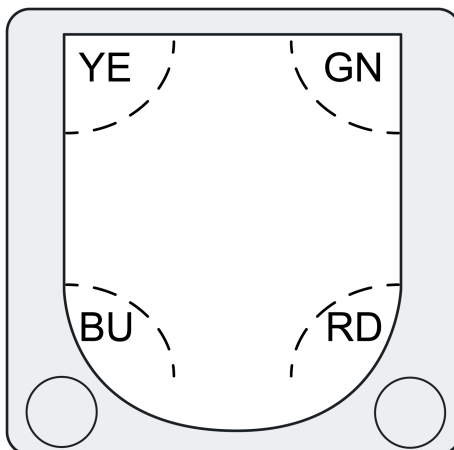

Figure 7: Status LED
Behind the sensor window (4) there are status LEDs for indicating different states of operation (figure 7).